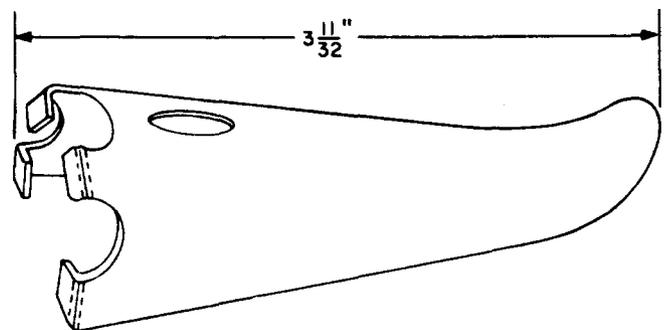

Fig. 9—603A Relay Extractor Tool
**2.09 603A:** The 603A relay extractor tool (Fig. 9) is used as a lever in removing 275-, 276-, 291-, and 303-type relays from their sockets. Wedge projections at one end are inserted between the base of the relay and socket.